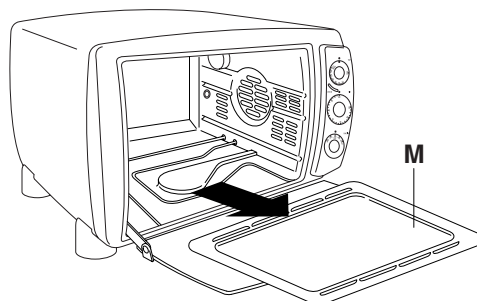

fig. 11
Remove the crumb tray (M) by pulling it outwards (see Fig. 11). In case of difficulty, wet the outside parts of the tray. Remove any dirt with a damp cloth. Dry thoroughly and then **put the tray back in place**.